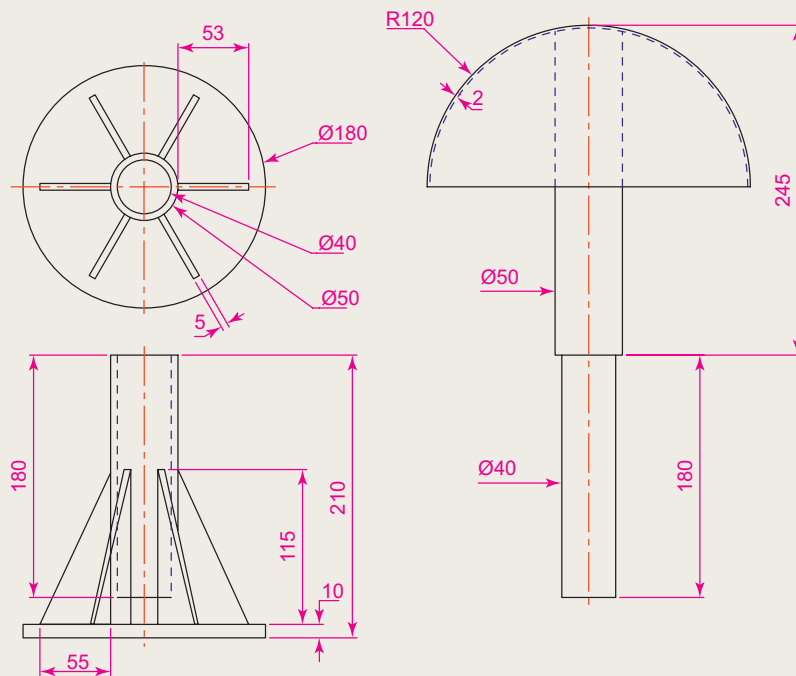

Fig. 14.46 Exercise 3 – orthographic projections
3. Working to the dimensions given in the two orthographic projections (Fig. 14.46), and working on two layers of different colours, construct an assembled 3D model of the one part inside the other.